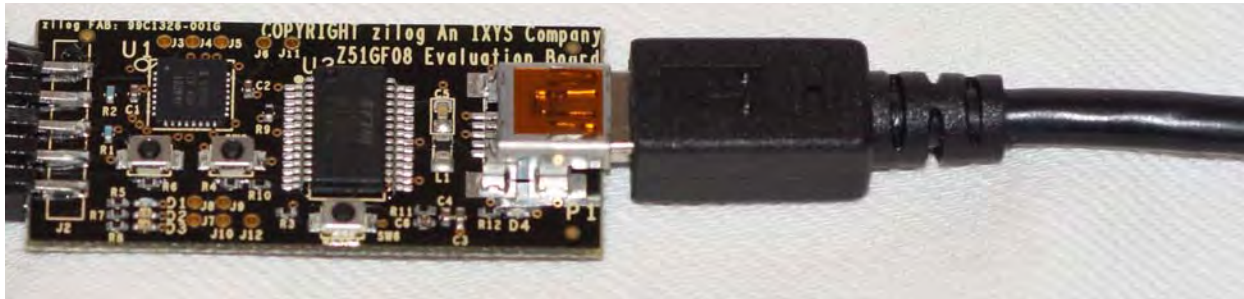

Figure 13. Connecting the USB Mini-B Cable to the Board
5. Connect the other end of this second Mini-B cable to the Z51F0811 Board's P1 connector to apply power to the Board. Note that the green LED D4 is ON; see Figure 13.